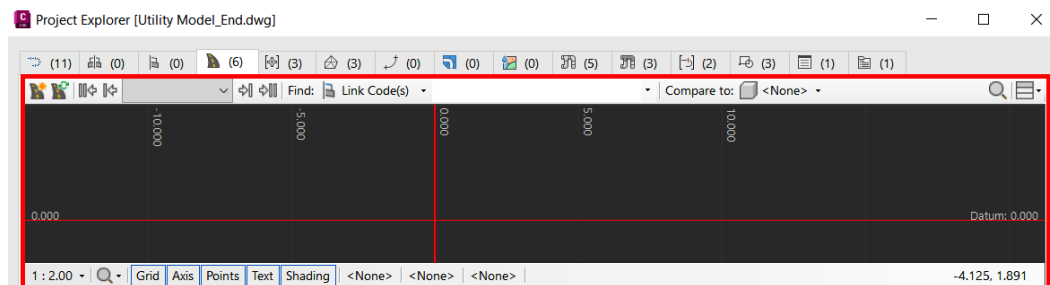

Figure 11.4 – Project Explorer's profile/section view pane
- **The profile/section view pane:** This view provides a profile or section view, depending on the object, to give us some additional context of the configuration of the objects we analyze. We also have some quick updating and analysis tools along the top of this pane for ease of use (refer to *Figure 11.4*).